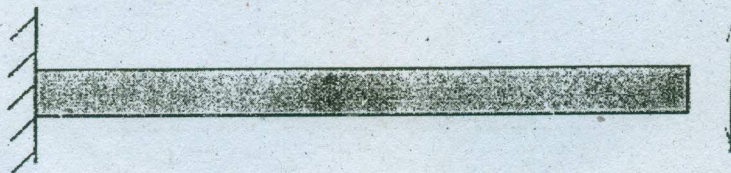

Fig 14(a)
14. (a) Determine the first two natural frequencies of transverse vibration of the cantilever beam shown in Fig.14(a) and plot the mode shapes.